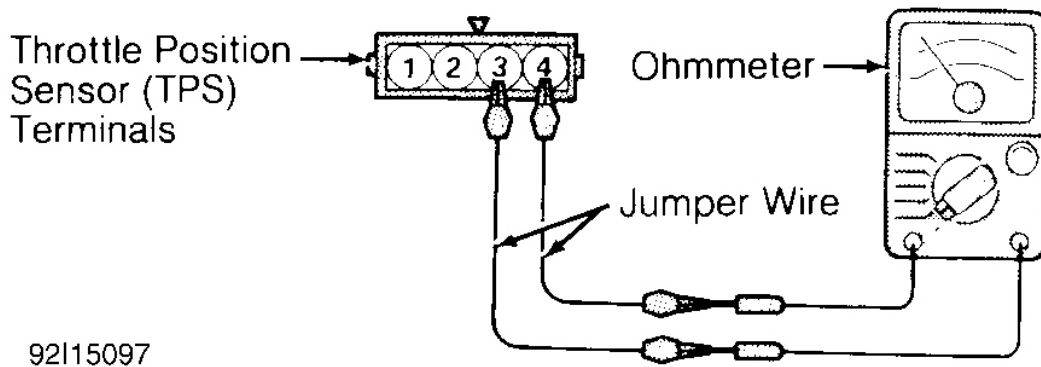

Fig. 17: Connecting Ohmmeter to TPS (Stealth & 3000 GT)
1. Disconnect electrical connector from TPS. Connect ohmmeter between terminals No. 3 (idle switch) and No. 4 (sensor ground) on TPS. See **Fig. 17**.